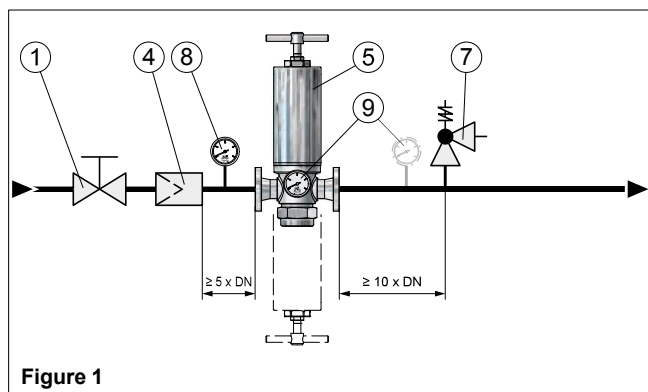
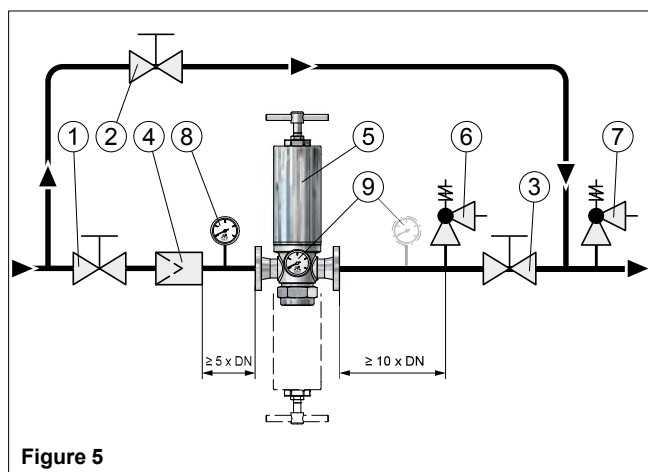

Figure 1
Figure 5
Figures 1 - 4 show the most common position for installing a pressure reducing valve into a pipe. On operationally sensitive installations, i.e. where a fault in the pressure reducing valve could result in an unacceptable breakdown of downstream consumer units, a by-pass with a shut-off device (fig. 5 - 6) must be provided.
If a shut-off valve (3) is interposed between the pressure reducing valve (5) and the safety valve (7), for example when a by-pass is fitted as in (fig. 5 - 6), it may become necessary to fit a further safety valve (6) to protect the pressure reducing valve. This is the case when the input pressure is greater than the maximum permitted pressure in the output section of the pressure reducing valve. The minimum response pressure of this safety valve should be at least 10% greater than the minimum response pressure of the system safety valve (7). It must not, however, be greater than the nominal pressure on the output side of the pressure reducing valve.